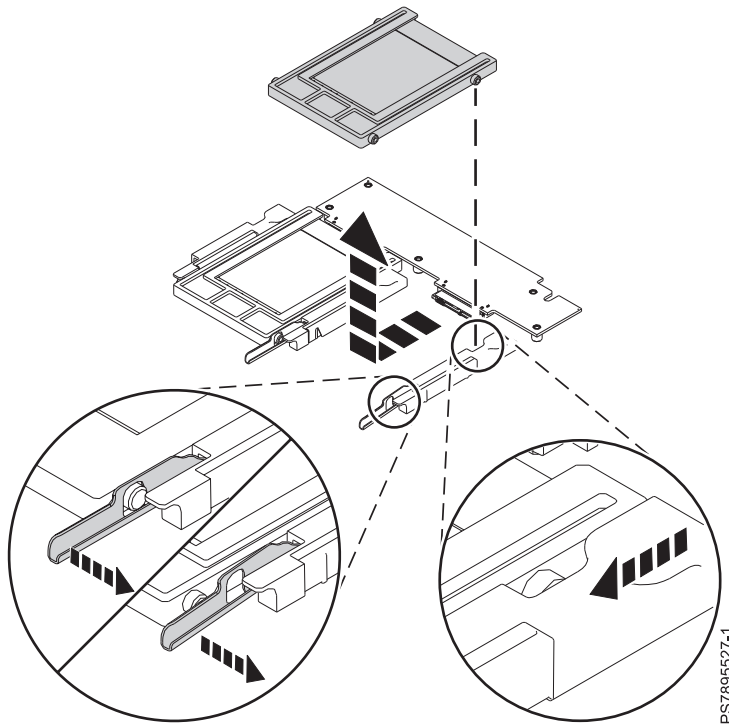

Figure 19. Removing an SSD carrier
- a. Pull and hold the blue release lever at the front of the drive tray, as indicated in Figure 19.